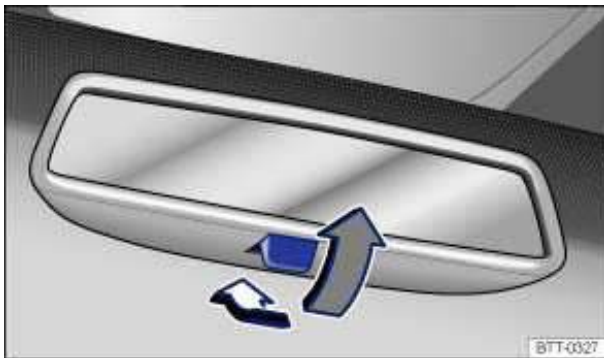

Fig. 94 Manually adjustable inside mirror.
- To adjust to non-glare visibility, move the lever so that it points backward ⇒ fig. 94.